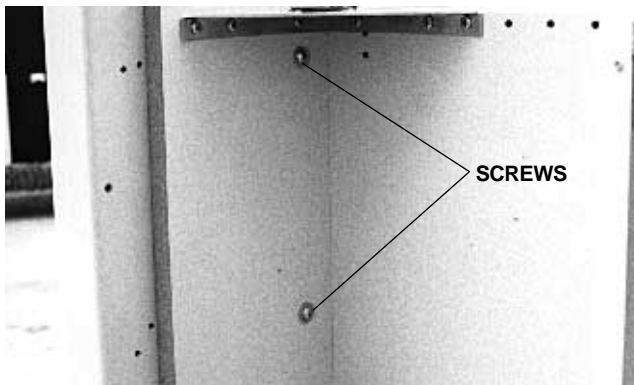

FIGURE 6
8. Install, and tighten, the screw assemblies through the cabinet and into the column in the positions shown in Figure 6. Tighten the bolt assemblies installed in Step 5.